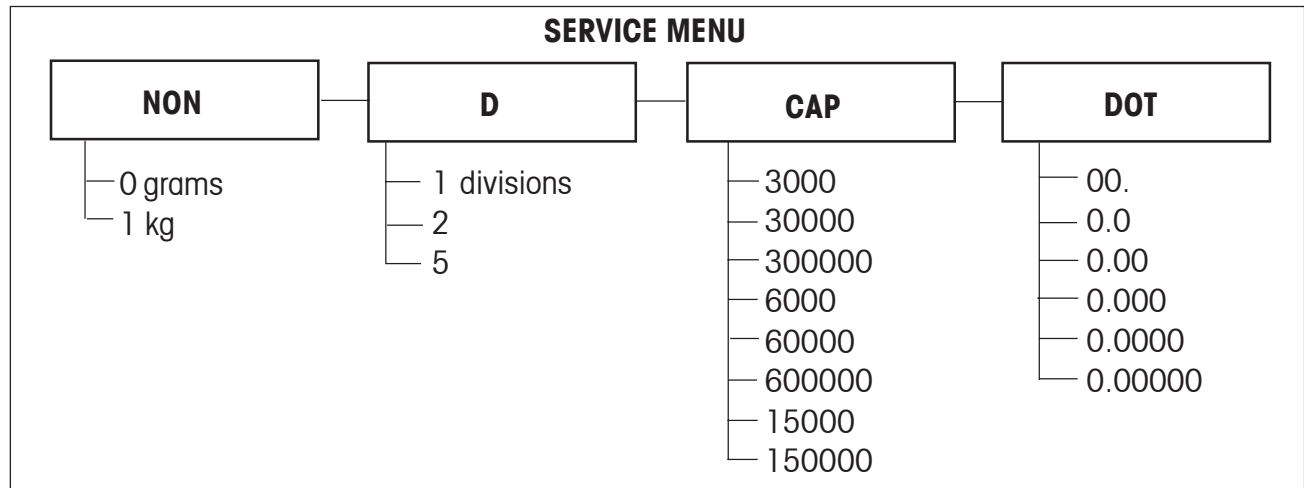

Figure A-1. Service Menu Diagram.
2. Press **Sample** repeatedly to select decimal point position. Refer to figure A-1 for values.